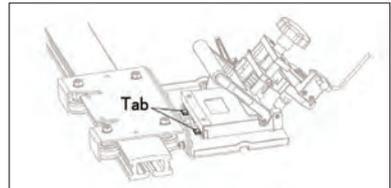

Figure 3
3. Touch the BAB1590 to the tabs to make parallel. (See Figure 3)